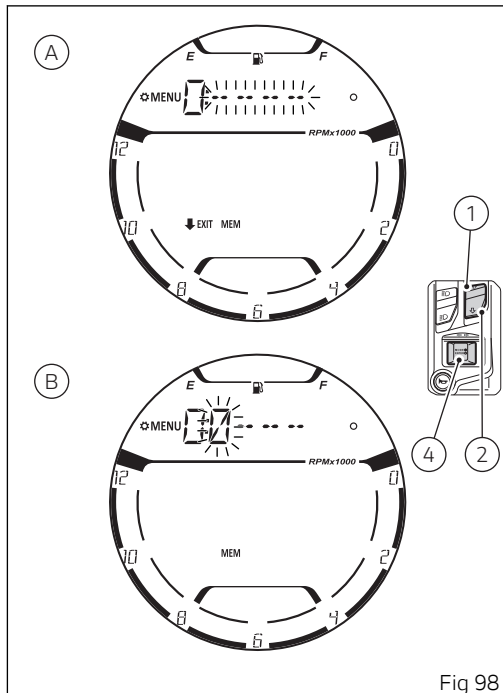

Fig 98
- If the PIN is not correct, the instrument panel displays "ERROR" flashing for 2 seconds and then highlights the four dashes "- - - -" for the old PIN to allow you to try entering the code (A, Fig 98) again.